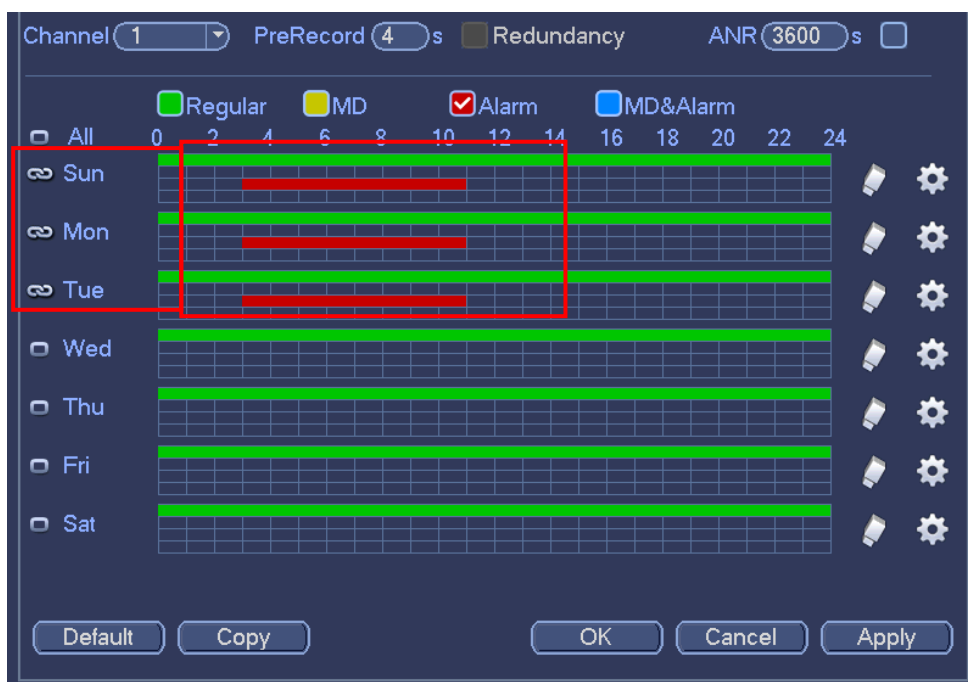

Figure 4-44
- Please draw manually to set record period. There are six periods in one day. See Figure 4-44.